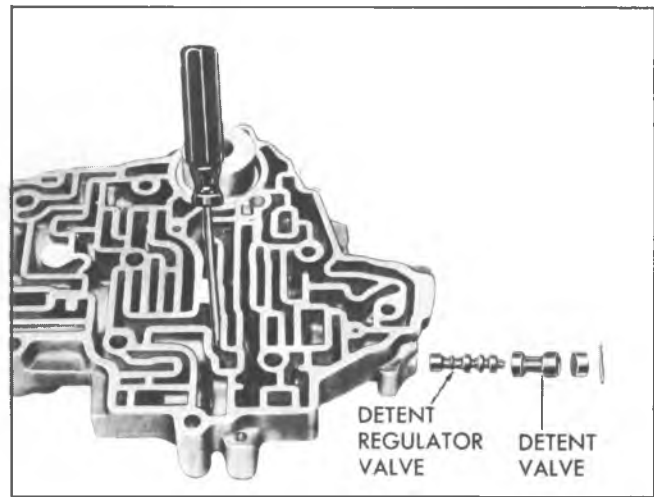

Fig. 10B--Installing Detent Regulator Valve and Detent Valve
4. In next bore up, install detent spring and spacer. Compress spring and secure with small screwdriver (fig. 10B).
Production built transmissions now use a direct clutch housing with a check ball (see Fig. 10B). If the housing requires replacement and the replacement housing does not contain a check ball, replace the direct clutch piston with the service piston which has a check ball (Models CL and CZ service piston has 2 check balls).